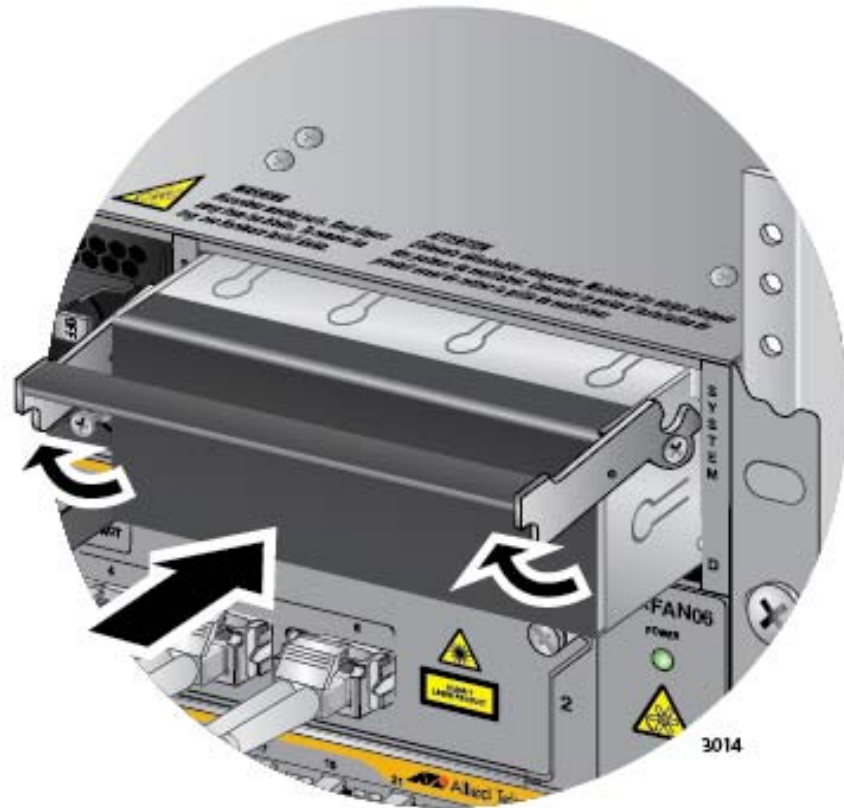

Figure 170. Installing a Blank Power Supply Slot Cover
13. Place the locking handle on the slot cover in the up position and slide the cover into the empty power supply slot. Refer to Figure 170 on page 272.